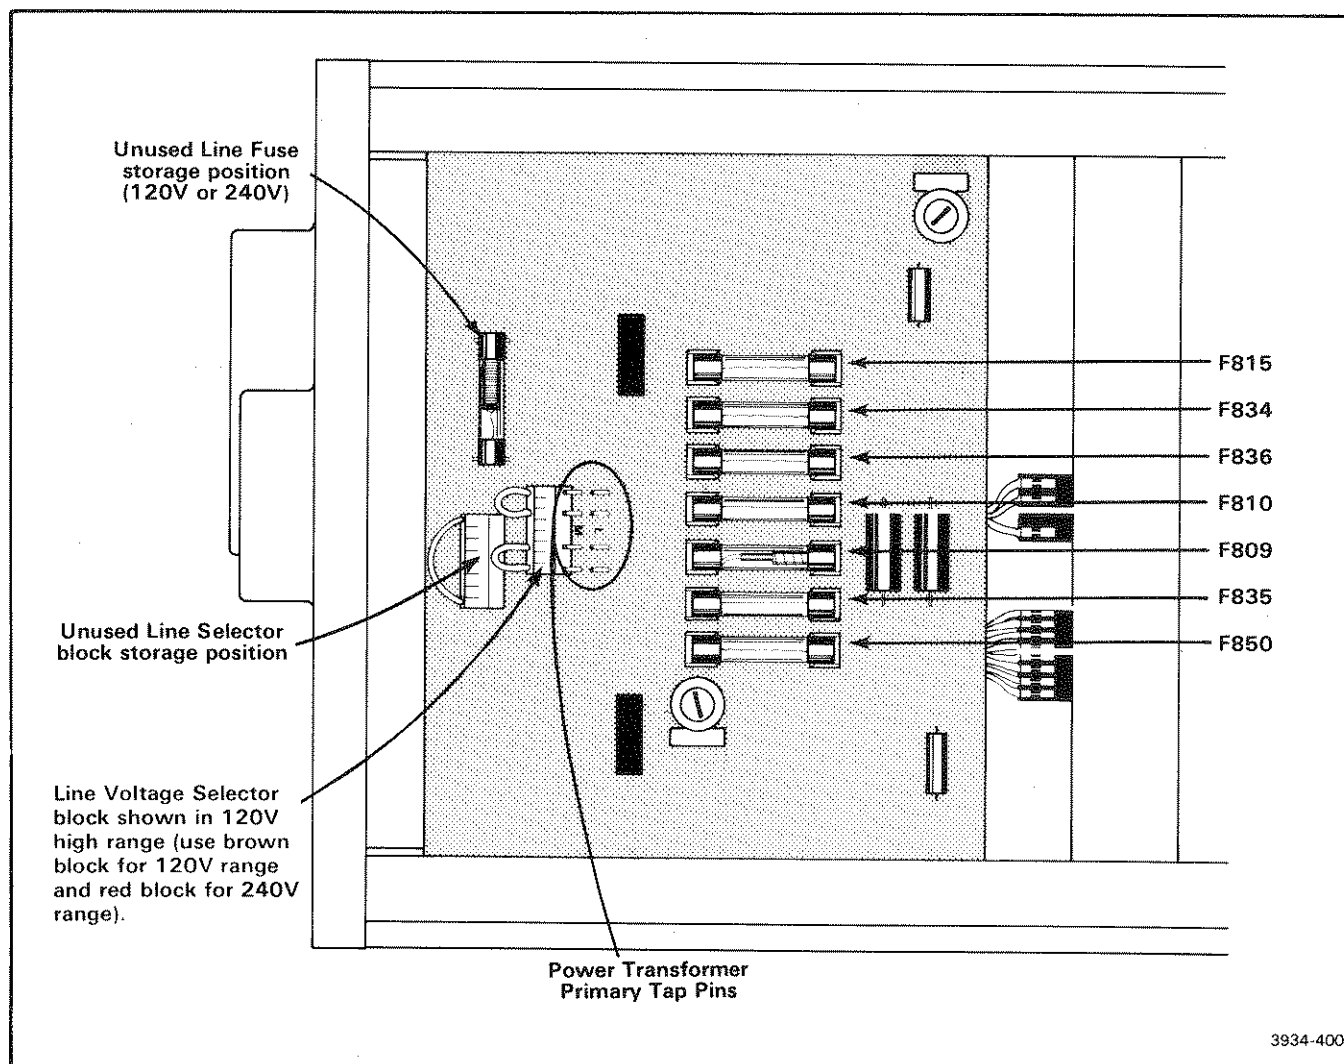

Fig. 4-1. Locations of the line-selector blocks on the LV Power Supply circuit board.
4. In the instrument, select the proper line-voltage selector block (see Fig. 4-1 for line-selector block locations). Select the brown block for 120-volt operation or select the red block for 240-volt operation. Install the block on the row of primary-tap pins noted from Table 4-1 in the previous step (either L, M, or H).
5. Install the unused block on the unused line-selector block pins (see Fig. 4-1 for pin location).
An unused line fuse, intended for the line-voltage source for which the oscilloscope was not set when shipped from the factory, is clipped to the LV Power Supply circuit board (see Fig. 4-1). Return the resultant unused fuse to the unused fuse clips.